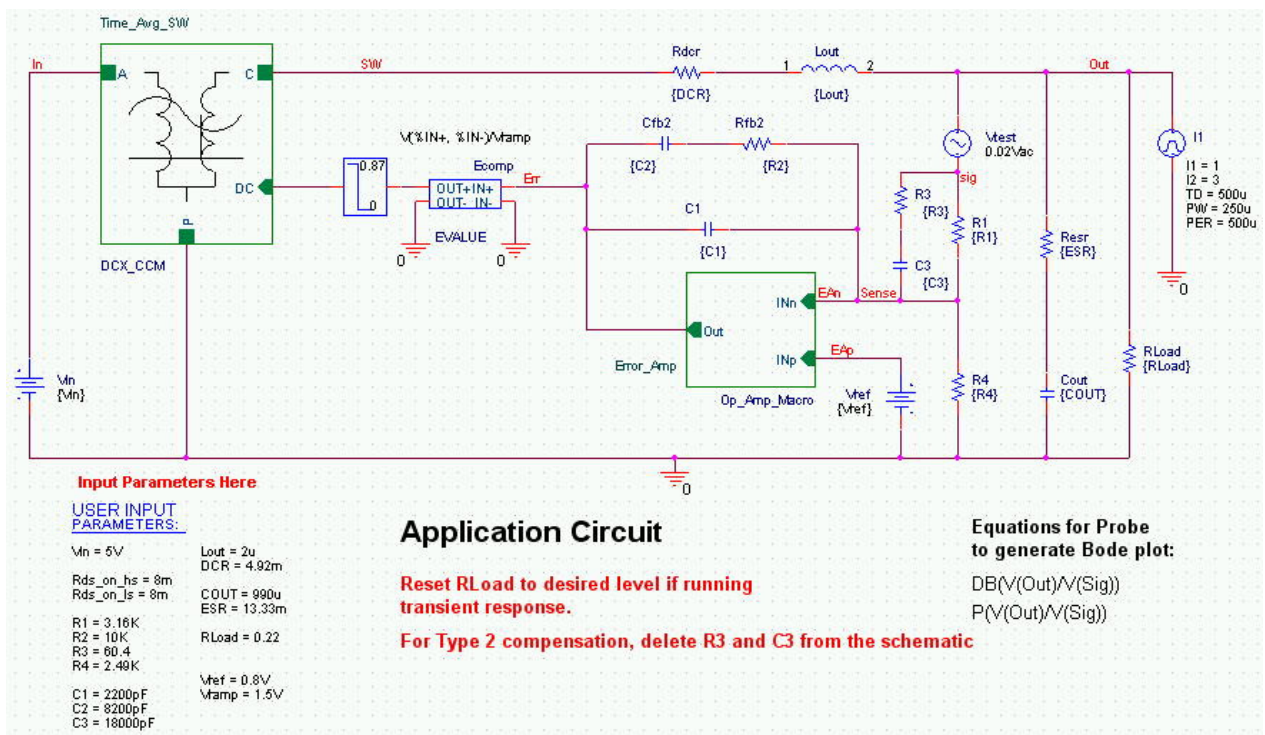

Figure 2. PSPICE Schematic
5. Input the values you have selected into the PSPICE model (see Figure 2). Generate a Bode plot by simulating with the "application circuit-ac sweep" simulation profile. Make sure to simulate over the corners of VIN and IOUT for your application.